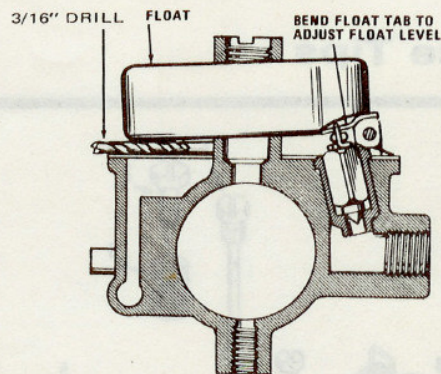

Figure 3
7. Check float level. With carburetor inverted, bottom surface of float should be 3/16" from gasket surface at point on float farthest from hinge (Figure 3). If adjustment is required, use long nosed pliers to bend tab that contacts fuel valve. Be careful to avoid damage to fuel valve or seat.
8. Install throttle stop screw (37) and spring (36). Adjust screw to open throttle slightly.
9. Install idle needle (2) and spring (3). Screw needle in until it seats lightly, and then back out 1-1/2 turns as a preliminary adjustment.